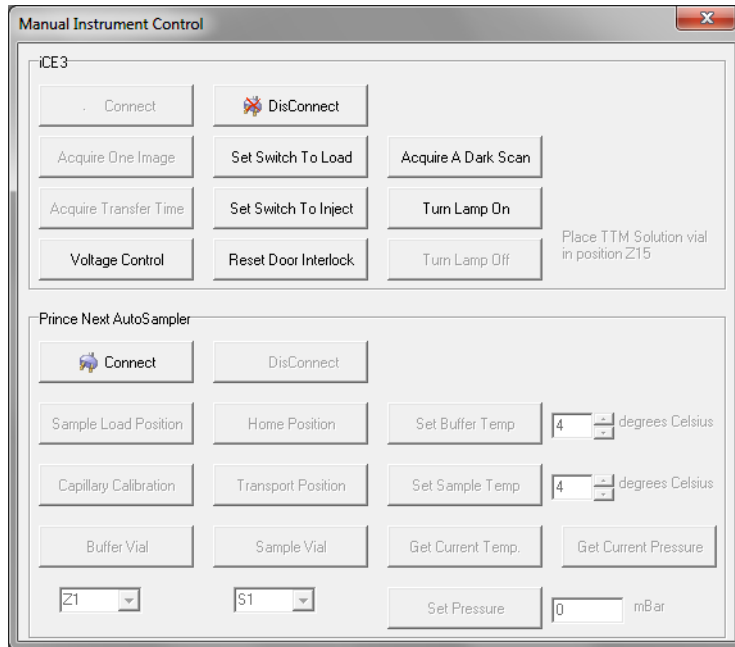

Figure 4-22: iCE3 connected.
2. In the iCE3 box, click **Connect**. Wait for the software to connect to the iCE3. When the connection is made, the buttons in the box will become active (Figure 4-22).